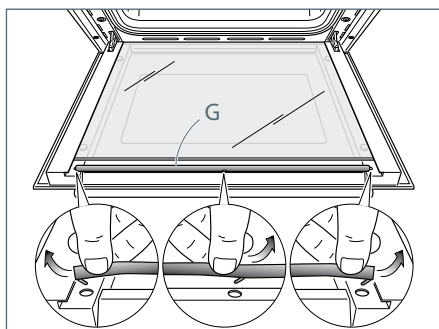

Fig. 59d
- Remove the seal "G" by unhooking the three fixing hooks (Fig. 59d).